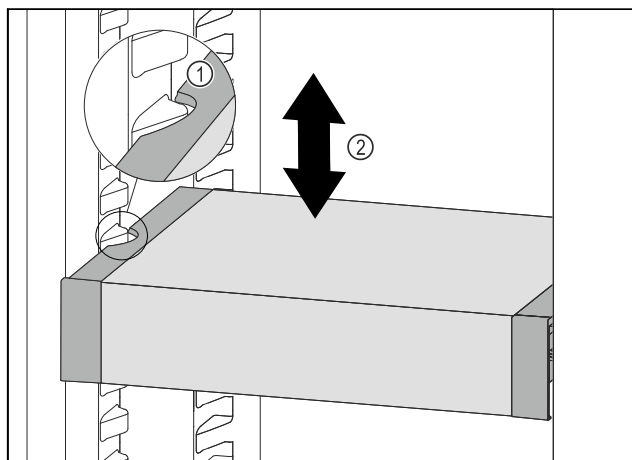

Fig. 165
- Pull VarioSafe forwards until the recesses in the side of the VarioSafe are at the level of the support rib in the refrigerator compartment. *Fig. 165 (1)*
- Move VarioSafe up or down in the refrigerator compartment until the desired height is reached. *Fig. 165 (2)*